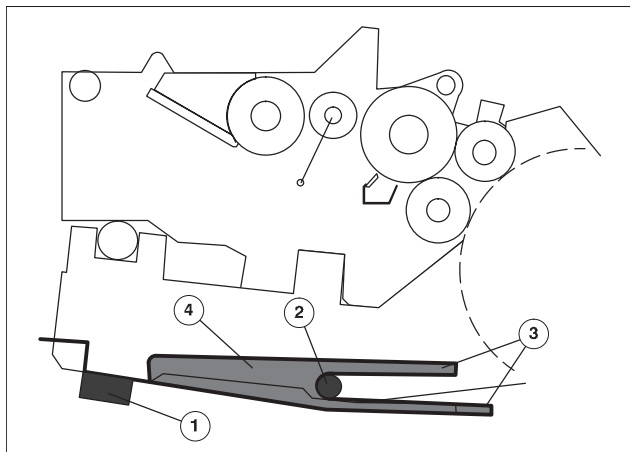

Fig. 26
1. Insert the drip pan (Fig. 26/4) above the cross bar (Fig. 26/1) in the numbering slide-in unit. In doing so, make sure that the cross bar (Fig. 26/2) lies between the two lateral guides (Fig. 26/3).